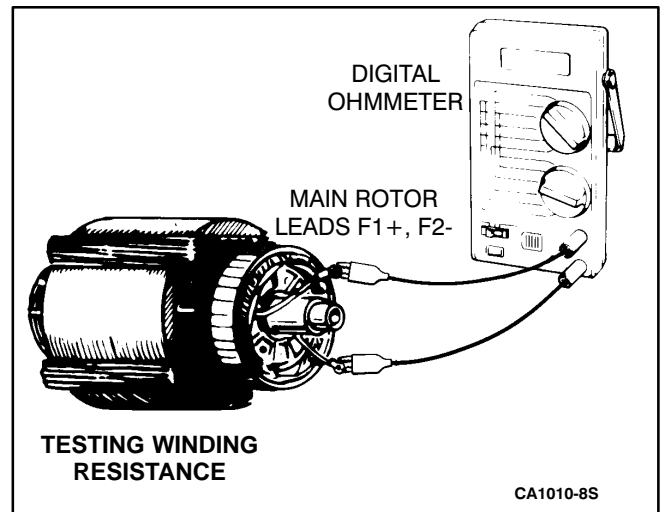

FIGURE 6-8. TESTING ROTOR FOR AN OPEN CIRCUIT
2. Using ohmmeter, check resistance between F1 and F2 leads, Figure 6-8. For the 12/15 kW genset, the resistance at 77°F (25°C) is 2.35 ohms \pm 10%. For the 16/20 kW genset, the resistance at 77°F (25°C) is 2.55 ohms \pm 10%. If not, replace defective rotor with a new, identical part.